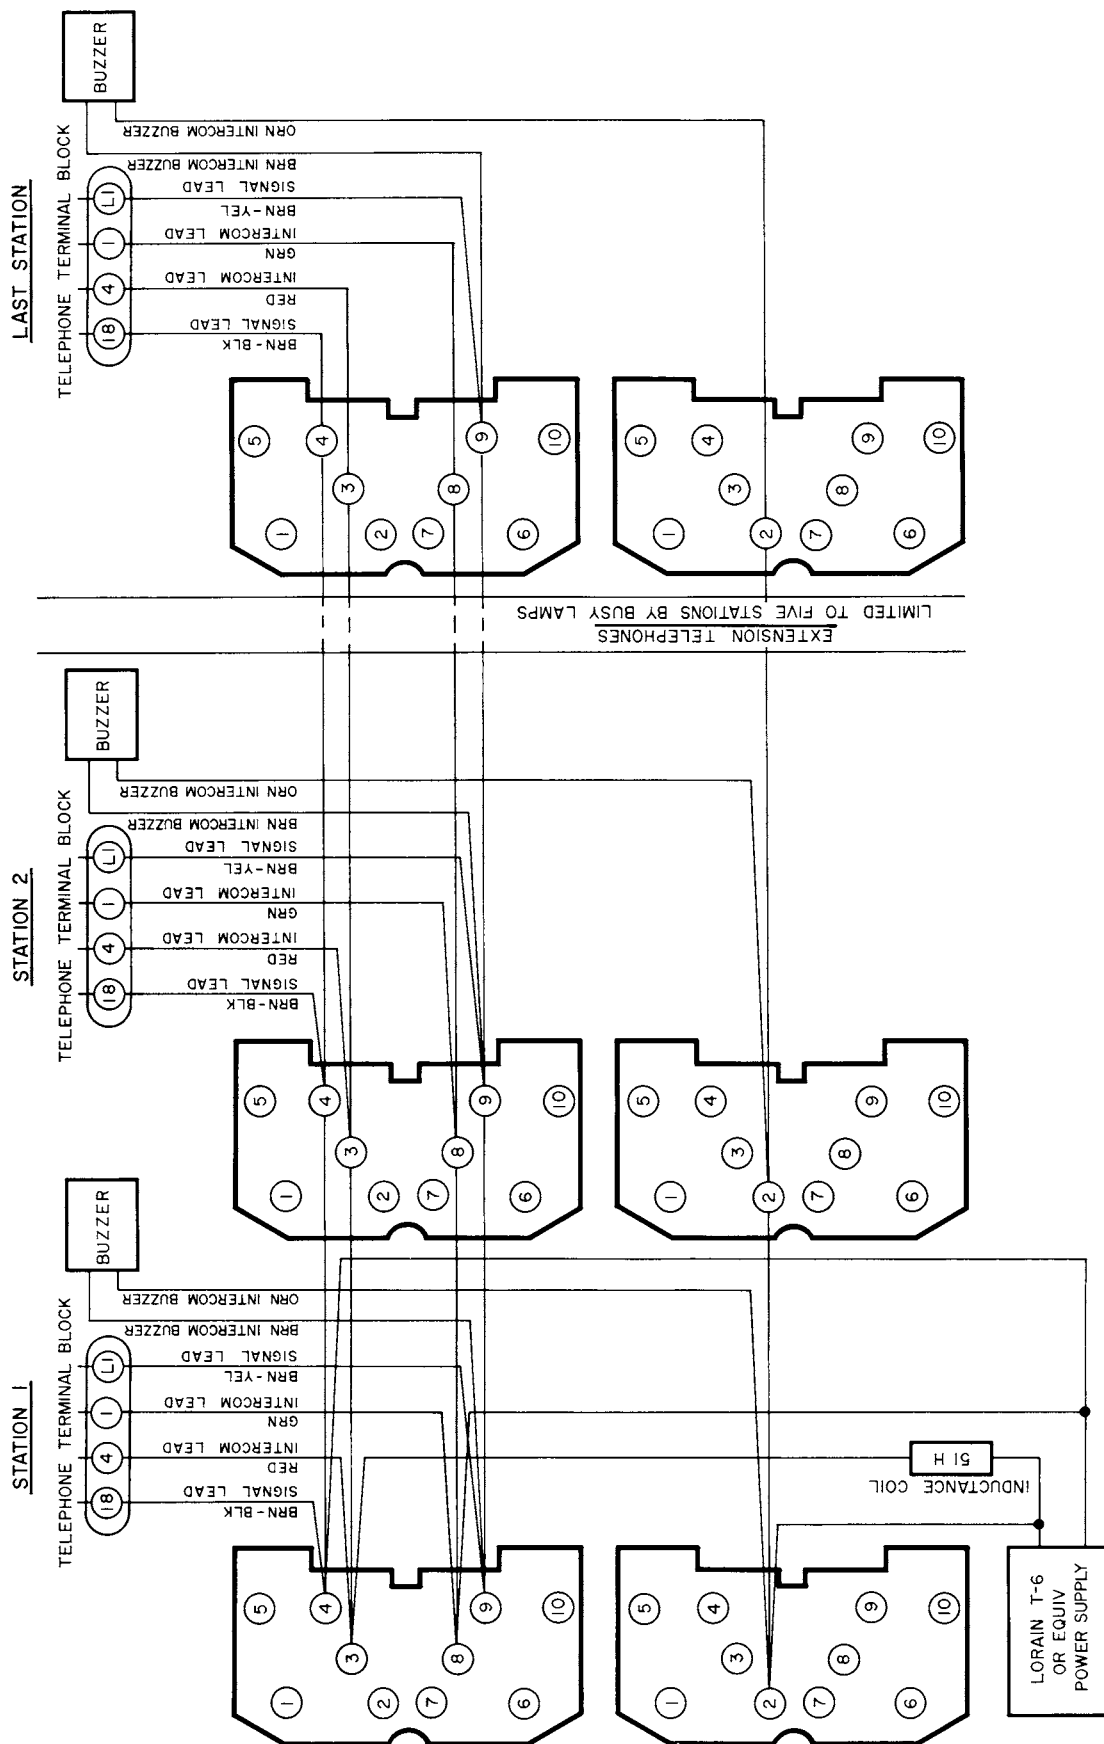

Figure 5. Wiring Diagram. Typical Manual Intercom Installation.
3. FOR MANUAL INTERCOM ON LINE 3 WIRE LINE 1 AND LINE 2 FROM THIS FIGURE: WIRE LINE 3 FROM FIGURE 5